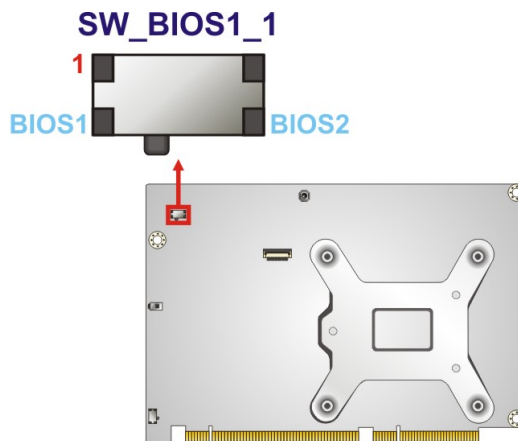

Figure 4-16: BIOS Switch Location
- Step 2:** Switch BIOS1 to BIOS2 or BIOS2 to BIOS1 by moving the BIOS switch to BIOS1 or BIOS2 position as shown in **Figure 4-16**.